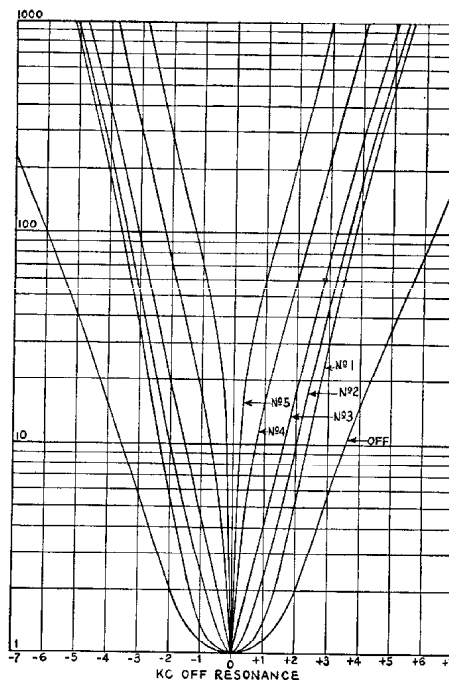
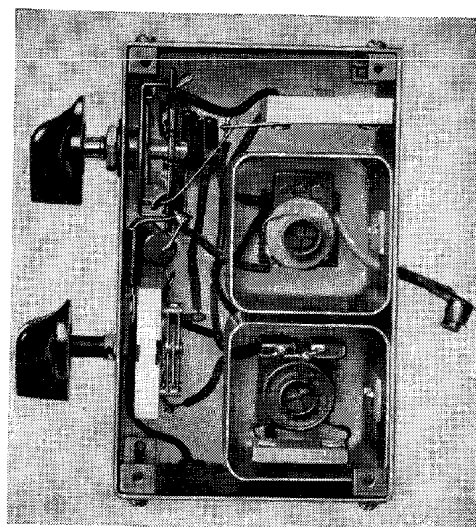

FIG. 3—Overall selectivity curves for 455 kc. I.F. amplifier and crystal filter. Labeling of the curves corresponds to the markings on the panel.
FIG. 9—Crystal filter unit.
the selectivity for these settings of the selectivity control are indicated in Fig. 3. There is absolutely no interlocking of the controls in this crystal filter. The rejector or phasing control can be set to eliminate a heterodyne of some particular frequency within its range, and will not require re-adjustment when the selectivity control of the filter is changed. Also, the output, or overall gain, of the receiver is not noticeably affected by changes in selectivity of the filter. This feature is extremely desirable, especially from the standpoint of accurately determining the strength of incoming signals. It is not necessary to make allowances for usual attenuation in the crystal filter, should it be necessary to change the selectivity in order to eliminate interference. Complete unit shown in Fig. 9.
I. F. AMPLIFIER: The intermediate frequency amplifier consists of three stages employing iron core permeability-tuned transformers. The intermediate frequency is 455 kc. which has now become the R.M.A. standard. Overall selectivity curves for the I. F. amplifier with crystal filter are shown in Fig. 3. The A.V.C. arrangement in this amplifier provides remarkably smooth operation. There is a switch for cutting out the A.V.C. and providing manual control of volume or sensitivity.